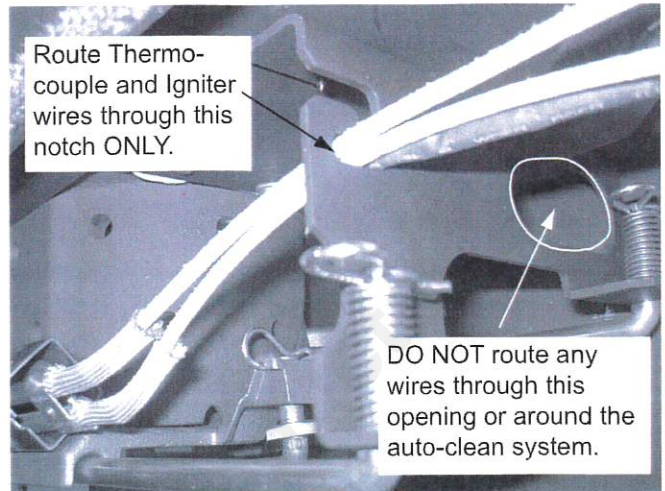

Figure 10
12. The igniter wires need to be routed through a notch in the fire pot riser assembly (**Figure 10**).